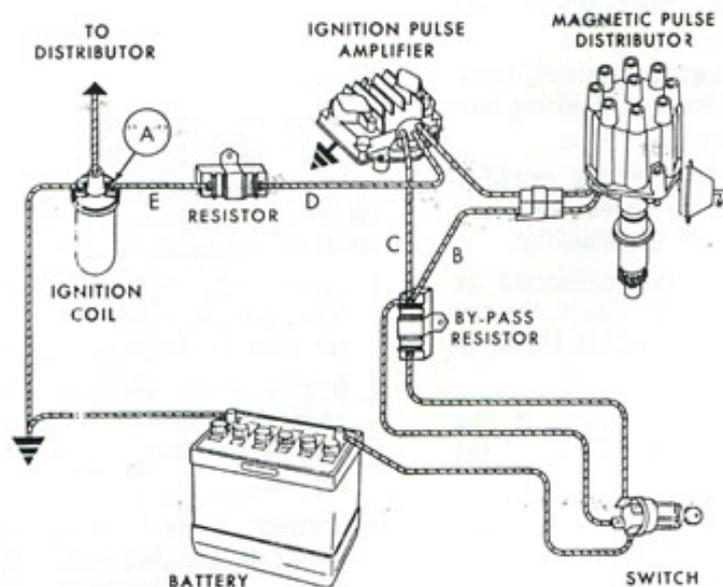
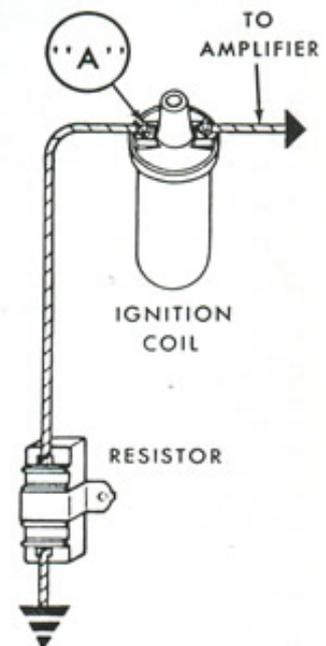

Figure 4—Typical wiring circuit.
Figure 7—Coil and resistor as connected on some systems.
A wiring diagram showing the complete circuit for a typical ignition system is illustrated in Figure 4. Note that there are two separate resistors used in this type of circuit. These resistors may be separate units, or they may be in the form of resistance wire in the harness. The resistor connected directly to the switch is bypassed during cranking, whereas the other resistor is always in the circuit. On some applications, the bypass lead may be connected to the cranking motor solenoid instead of to the switch. The use of two resistors permits the required value of resistance to be bypassed during cranking.
3. The resistor and coil connected as shown in Figure 4 or, instead, the coil and resistor connected as shown in Figure 7.
- b. If the bulb burns at normal brilliance, check for an open between test point "A" and the distributor connector. This includes leads B, C, D, and E in Figure 4. If the wiring and connections are satisfactory, check for a poor amplifier ground by temporarily connecting a jumper lead from the amplifier housing to a good ground. If the bulb now burns at half brilliance, the amplifier is poorly grounded. Correct as required and proceed to step "d." If the bulb remains at full brilliance, replace the amplifier, or repair as covered in the next section.